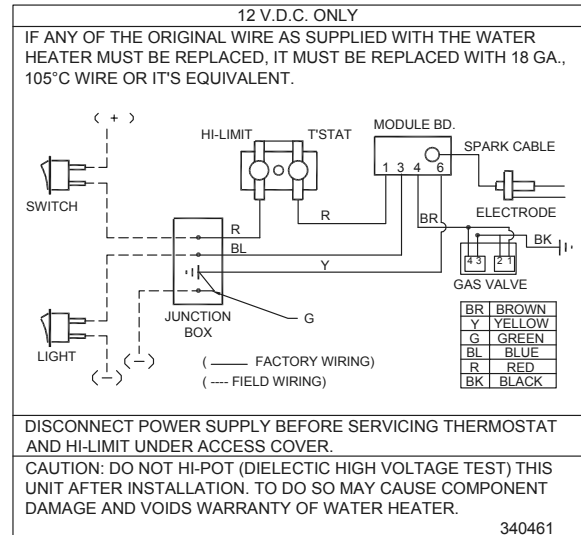

Figure 7
**D.** Make the 12 Volt D.C. electrical connections following the wiring diagram illustrated in Figure 7.